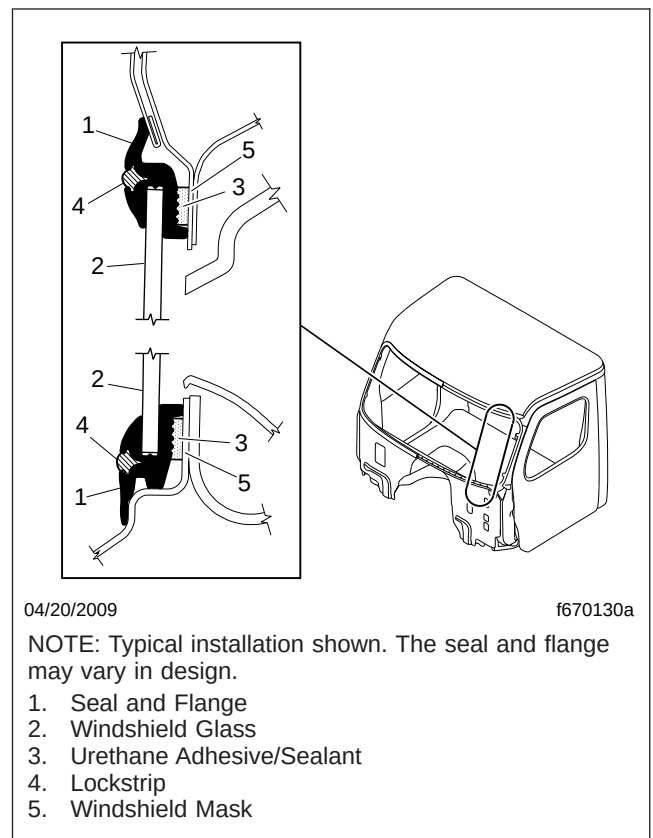

Fig. 2, Roped-In Bonded Windshield Installation, Cross-Sectional View
8. Find the end of the perimeter lockstrip, at the top or base of the windshield center post. Pull the lockstrip out around the entire perimeter of the seal and discard it. See Fig. 2.